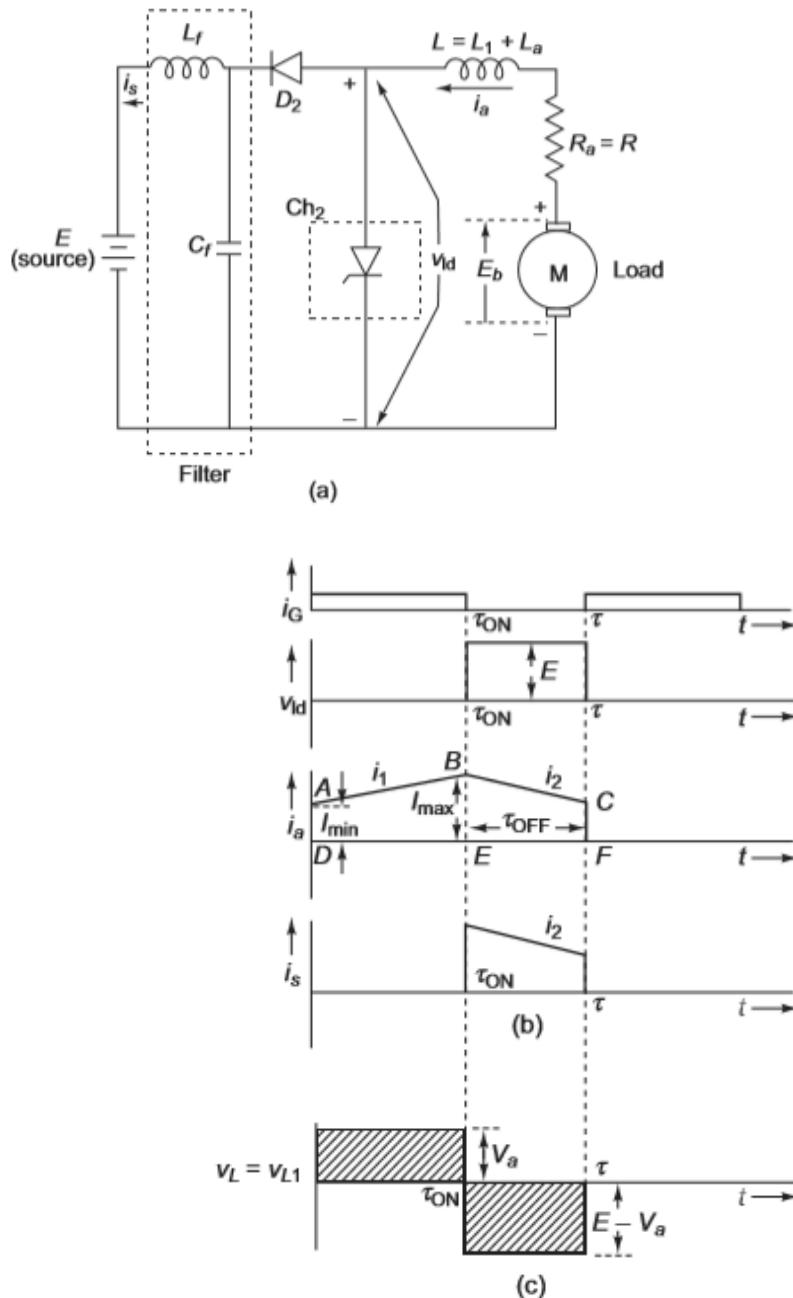

Fig. 7.26 Regenerative braking of a chopper-based dc drive: (a) circuit diagram, (b) waveforms, (c) voltage across inductor  $L$  for one period ( $\tau$ )
(a) The circuit and waveforms are shown in Figs 7.26(a) and (b). The average load voltage is
13. A dc chopper is used for regenerative braking of a dc series motor as shown in Fig. 7.26(a). The data are  $E = 400$  V,  $R_a = 0.05$   $\Omega$ ,  $R_f = 0.04$   $\Omega$ ,  $L = L_a + L_f = 0.09$  mH. The product  $K_b\phi_f$  may be assumed to be constant at 1.5 V/rad s and the average load current is 200 A. The frequency of the chopper is 1 kHz and  $\tau_{ON}/\tau = 0.6$ . Compute the (a) average load voltage, (b) motor speed, (c) power regenerated and fed back to the battery, (d) equivalent resistance viewed from the motor side when it is working as a generator, and (e) minimum and maximum permissible speeds.